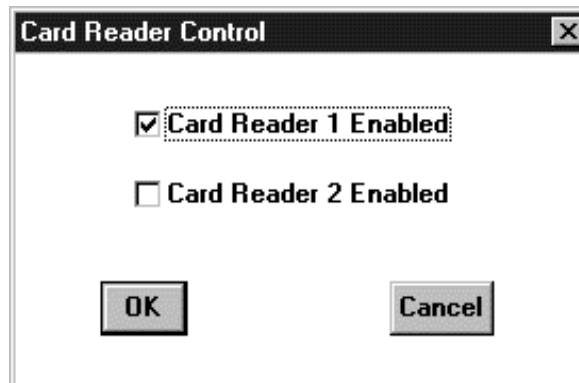

Figure 5.6.2.8
a) After selecting one of the **Card Reader Control Settings** per section 5.6.2.1, the following *Card Reader Control* window (Figure 5.6.2.8) will appear: